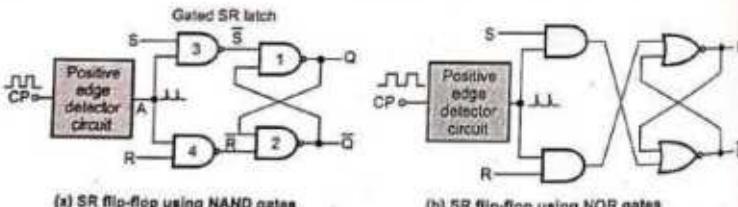

Fig. 5.4.5 Clocked SR flip-flop
- The Fig. 5.4.5 shows the positive edge triggered clocked SR flip-flop.